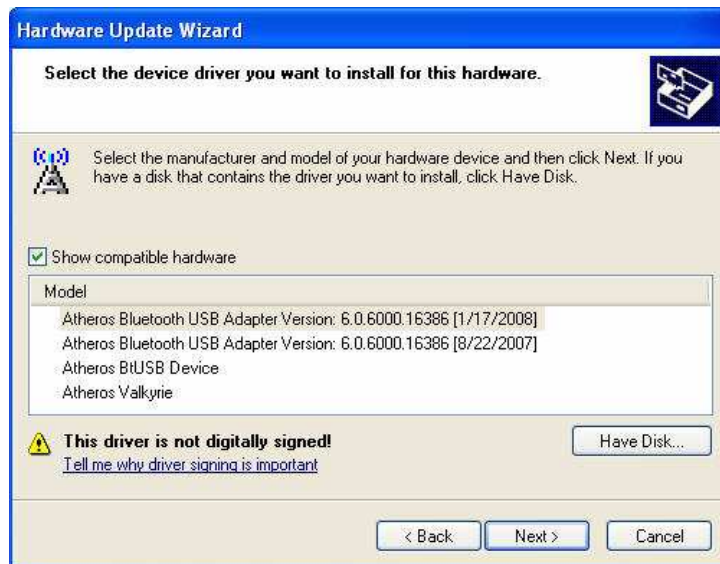

Figure 1-15. Finishing the Drive Installation
7. Check **Do not search. I will choose the driver to install** option. This initiates the driver update process. In few seconds, you will see another screen displaying available drivers. See Figure 1-15.